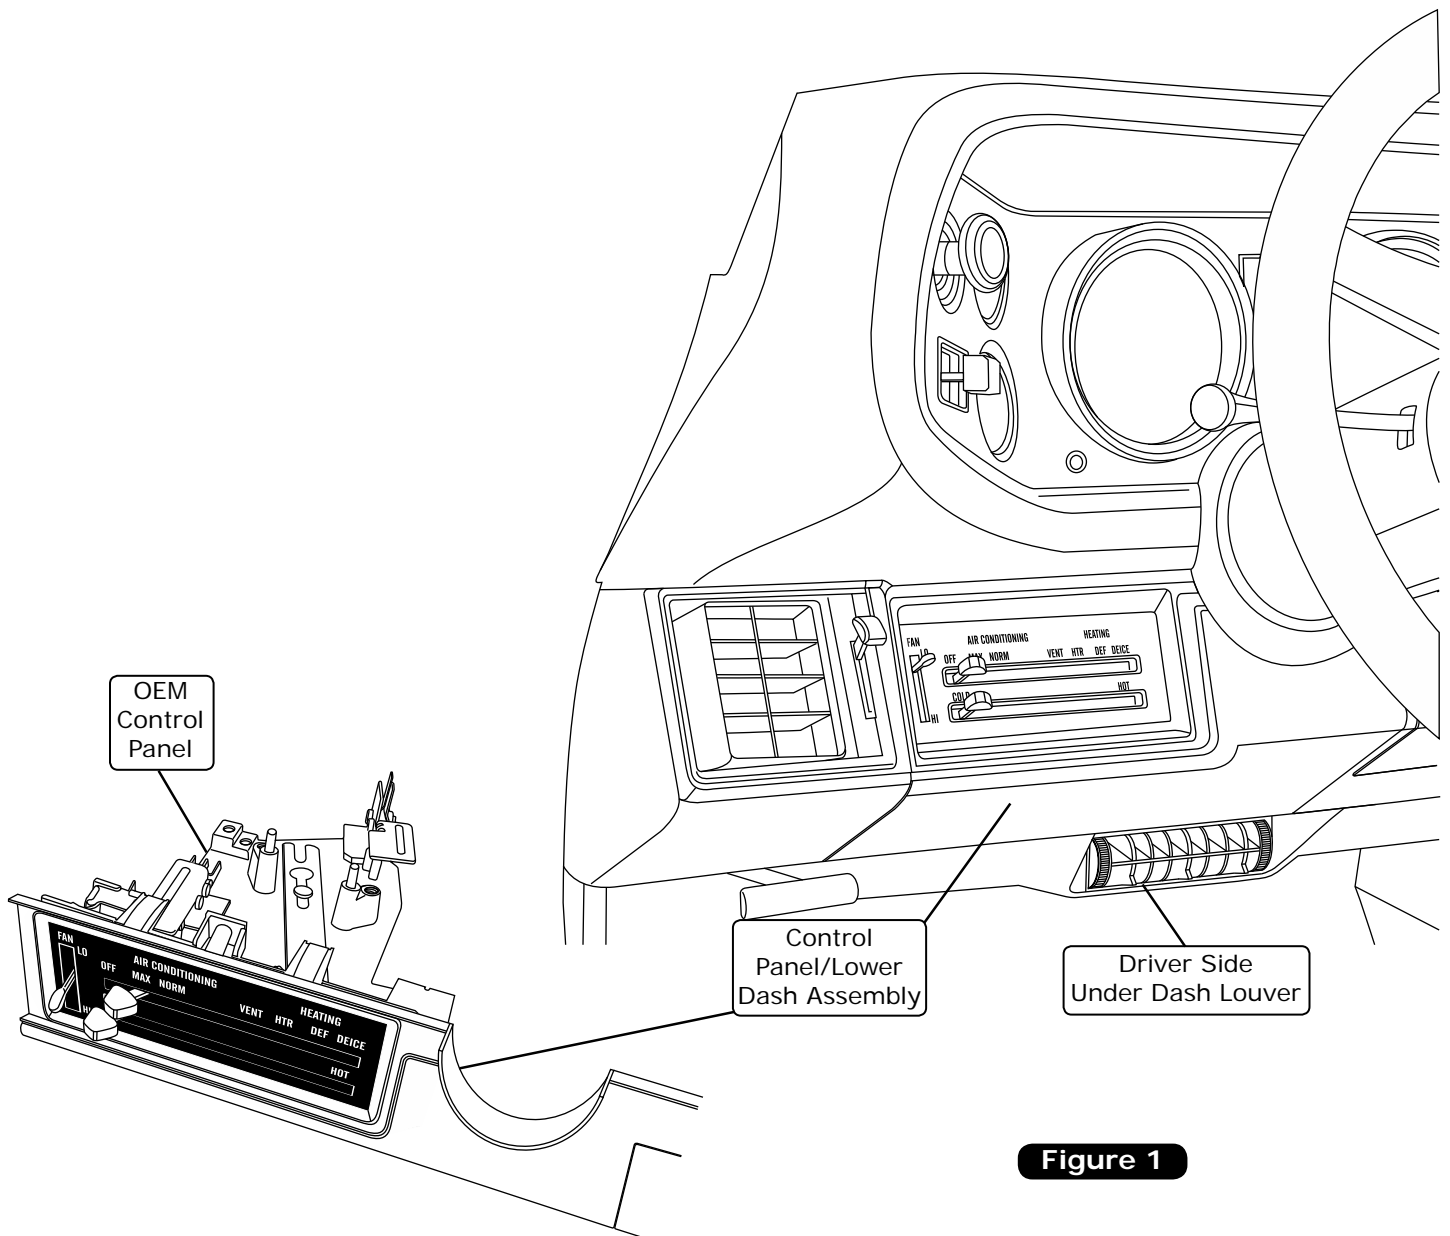

Figure 1
1. Disconnect all wires, vacuum hoses, and control lever cables from the back of the OEM control panel (See Figure 1, below).
2. Remove the driver side under dash louver (See Figure 1, below).
3. Remove the control panel/lower dash assembly (See Figure 1, below).
4. Remove the control panel from the lower dash assembly (discard control panel) (retain lower dash panel) (See Figure 1, below).